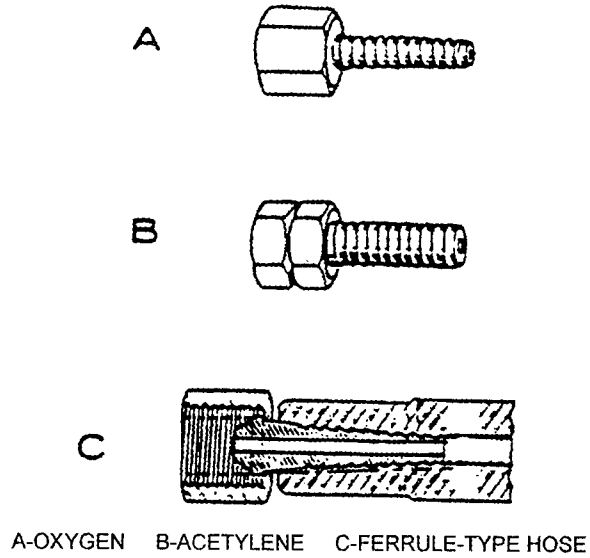

Fig. 3-6 Hose Connections
- a. Reinforced rubber hose is recommended for welding and cutting operations. New hose is supplied with a talc on the inside surface. The dust should be blown out with compressed air before using hose, except the oxygen hose which should be blown out with oxygen. Flexible metal covered hose should not be used. Individual hose are supplied for oxygen acetylene. Oxygen hose is colored either black or green and acetylene hose is always red (See **Figure 3-6.**) To prevent switching, the fittings on the end of the hose have opposite threads. (Oxygen nuts are right hand thread and acetylene nuts are left-hand thread.)